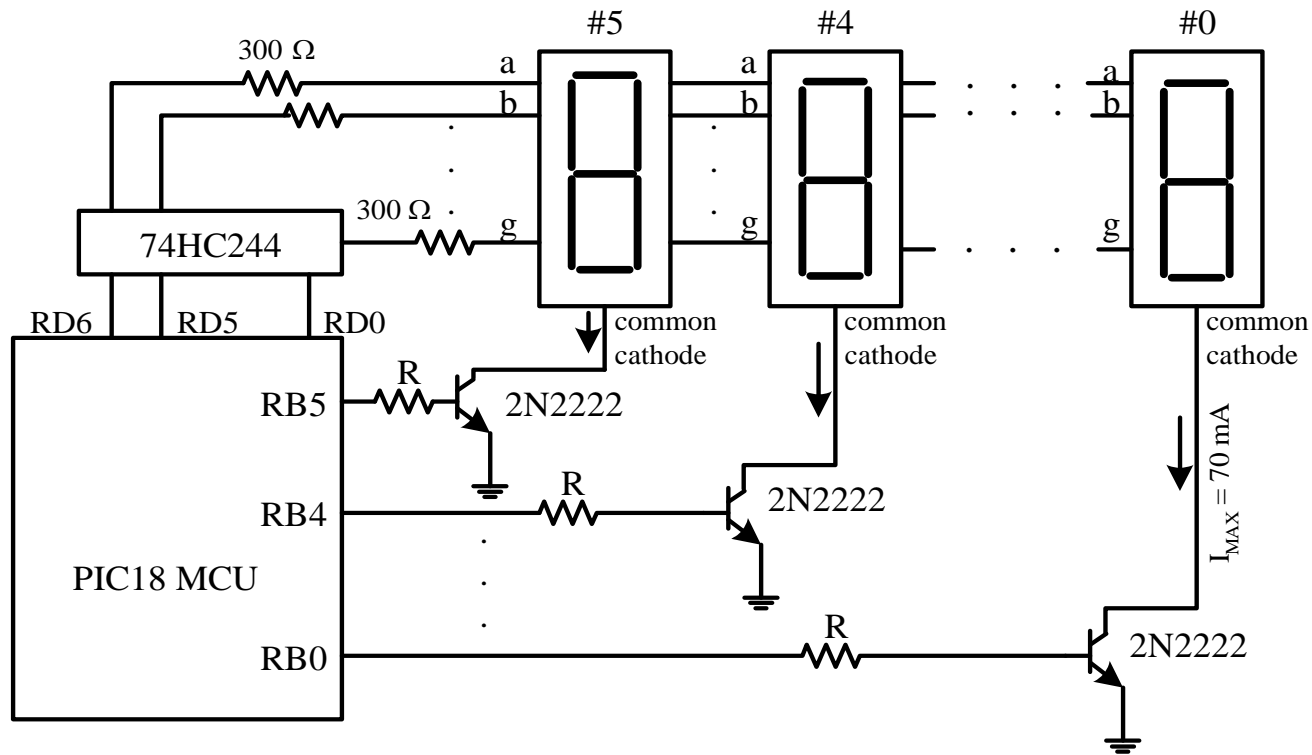

Figure 7.17 Port B and Port D together drive six seven-segment displays
- Multiple-digit displays can be achieved by using time-multiplexing technique shown in Figure 7.17.
Example 7.4 Write an instruction sequence to display 5 on the seven-segment display #4 in Figure 7.17.
How to display multiple digit in Figure 7.17?
Example 7.5 Write a program to display 654321 on the six seven-segment displays in Figure 7.17 assuming that the PIC18 is running with a 32-MHz crystal oscillator.